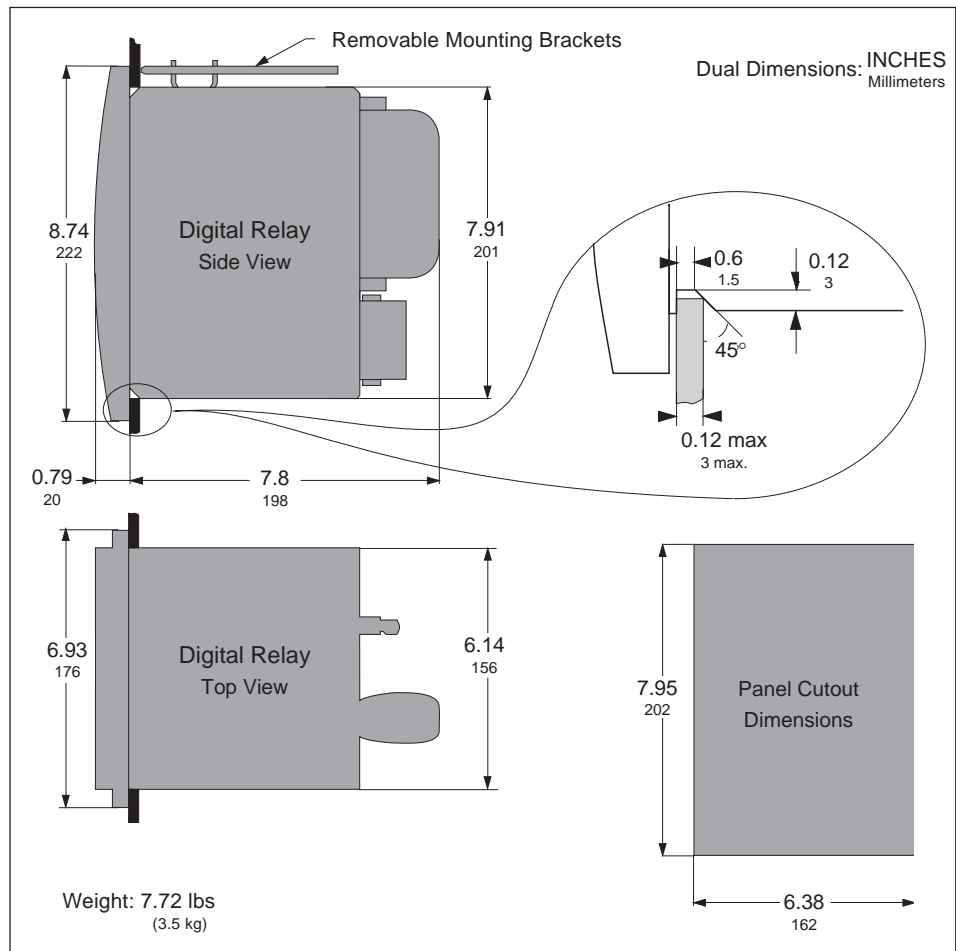

Figure 10: Digital relay dimensions
The digital relay is a semi-flush-mounted device that projects through the back of a panel or circuit breaker cell door. Mounting dimensions are shown in figure 10.
- Depth of the digital relay. Refer to figure 10 for digital relay dimensions, and figure 89, page 84, for dimensions of the optional rear cover.
The digital relay is designed for flush-mounting on a panel less than 0.12" (3 mm) thick (see figure 10). Follow these steps to install the digital relay in the panel:
2. Referring to figure 10, prepare the cutout.
3. Insert the digital relay through the cutout; seat the two notches at the bottom of the digital relay (1, figure 11) onto the panel sheet metal. (A close-up of these notches is shown in the inset in figure 10, page 12.)